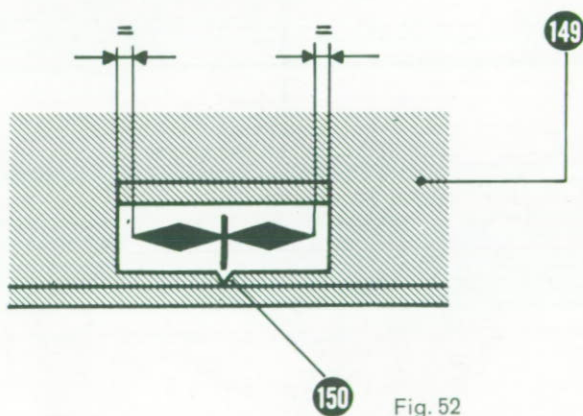

Fig. 52
llows: First set indicator scale (151). Run the machine and check whether scale symbol has same distance from both sight hole edges. (See Fig. 52). Is this not the case, loosen screw (152) and shift scale to and fro until you can set it to the position required. Scale should be pressed slightly into the direction of the cams in order to avoid touching the arm cover. Retighten screw (152). Now switch-on the ornamental stitch device - switch lever (13) to the rear - place